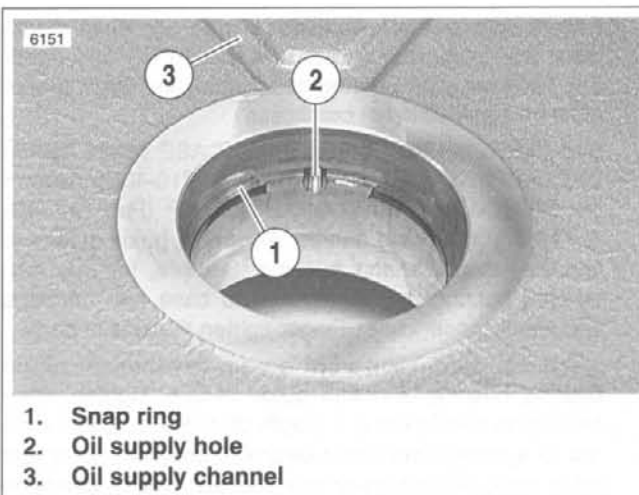

Figure 3-140. Snap Ring
- f. See *Figure 3-140*. Verify that the gap in the snap ring is centered below the oil hole at the top of the ring groove. Move snap ring if not properly centered.